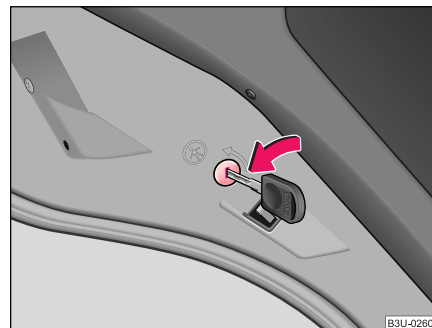

Fig. 21 Child safety locks on the rear doors
- Use the vehicle key to turn the slit in the rear door to the left in the direction of the arrow ⇒ page 39, fig. 21.